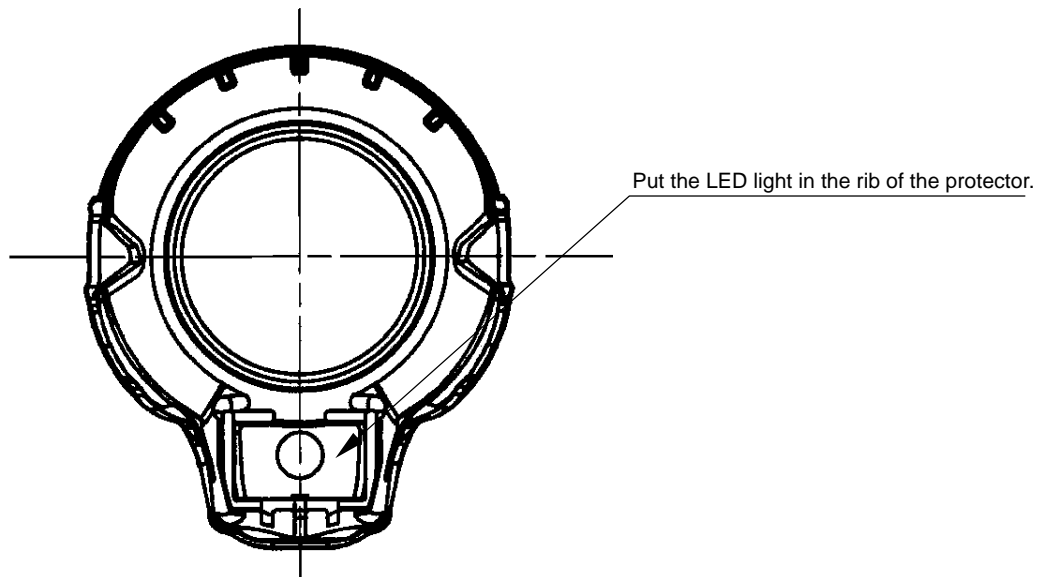

Fig. 22
**(5) Mounting Protector (J) [6] <2> and Front Cap (F) [5] <1>**
Cover the assembled housing with Protector (J) [6] <2> and Front Cap (F) [5] <1>. Check that the board in the LED light does not protrude from the LED holder. Then engage the protrusion of the Hammer Case [7] <3> with the protrusion of the LED holder. Check that the LED light is inside the rib of Protector (J) [6] <2> before mounting Protector (J) [6] <2> (see Fig. 22). After mounting Protector (J) [6] <2>, mount Front Cap (F) [5] <1> to secure Protector (J) [6] <2>.